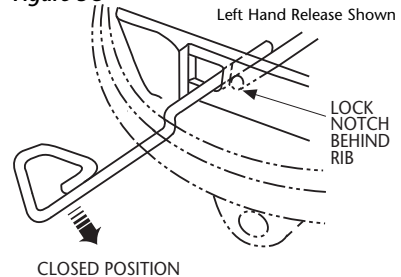

*Figure 3B*
2. **Check the plunger – it must be visible behind the lock and engaged on both steps**, as shown in *Figure 3A*. If the plunger is not visible or not engaged on both steps (*Figure 3B*), turn the adjustment bolt counterclockwise 1/2 turn, then try to lock the locks again.